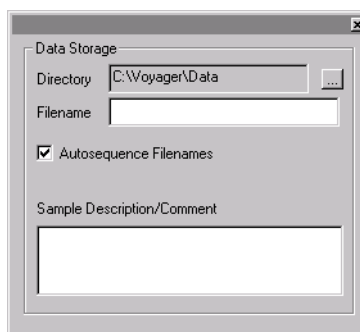

Figure 6-3 Data Storage Control Page
1. If the Data Storage control page (Figure 6-3) is not displayed, select **Data Storage** from the View menu.